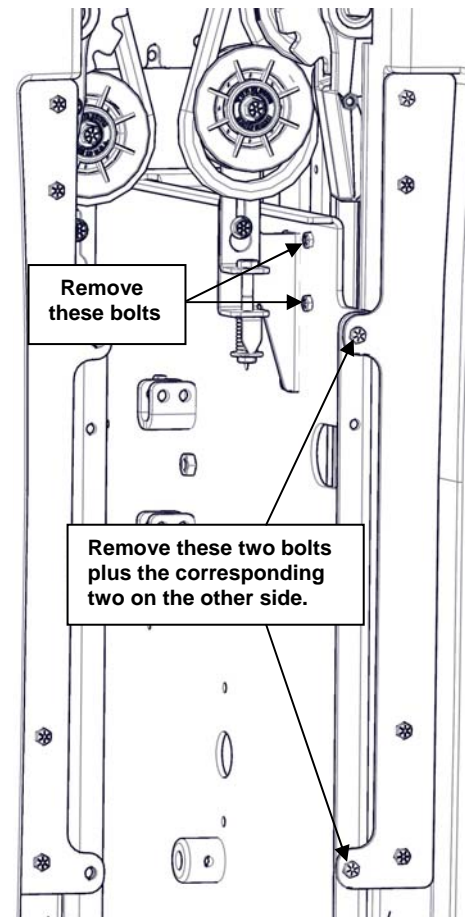

Figure 2-3, Lift Removal
6. Remove the two bolts next to the Tensioning Bracket (see Figure 2-3).